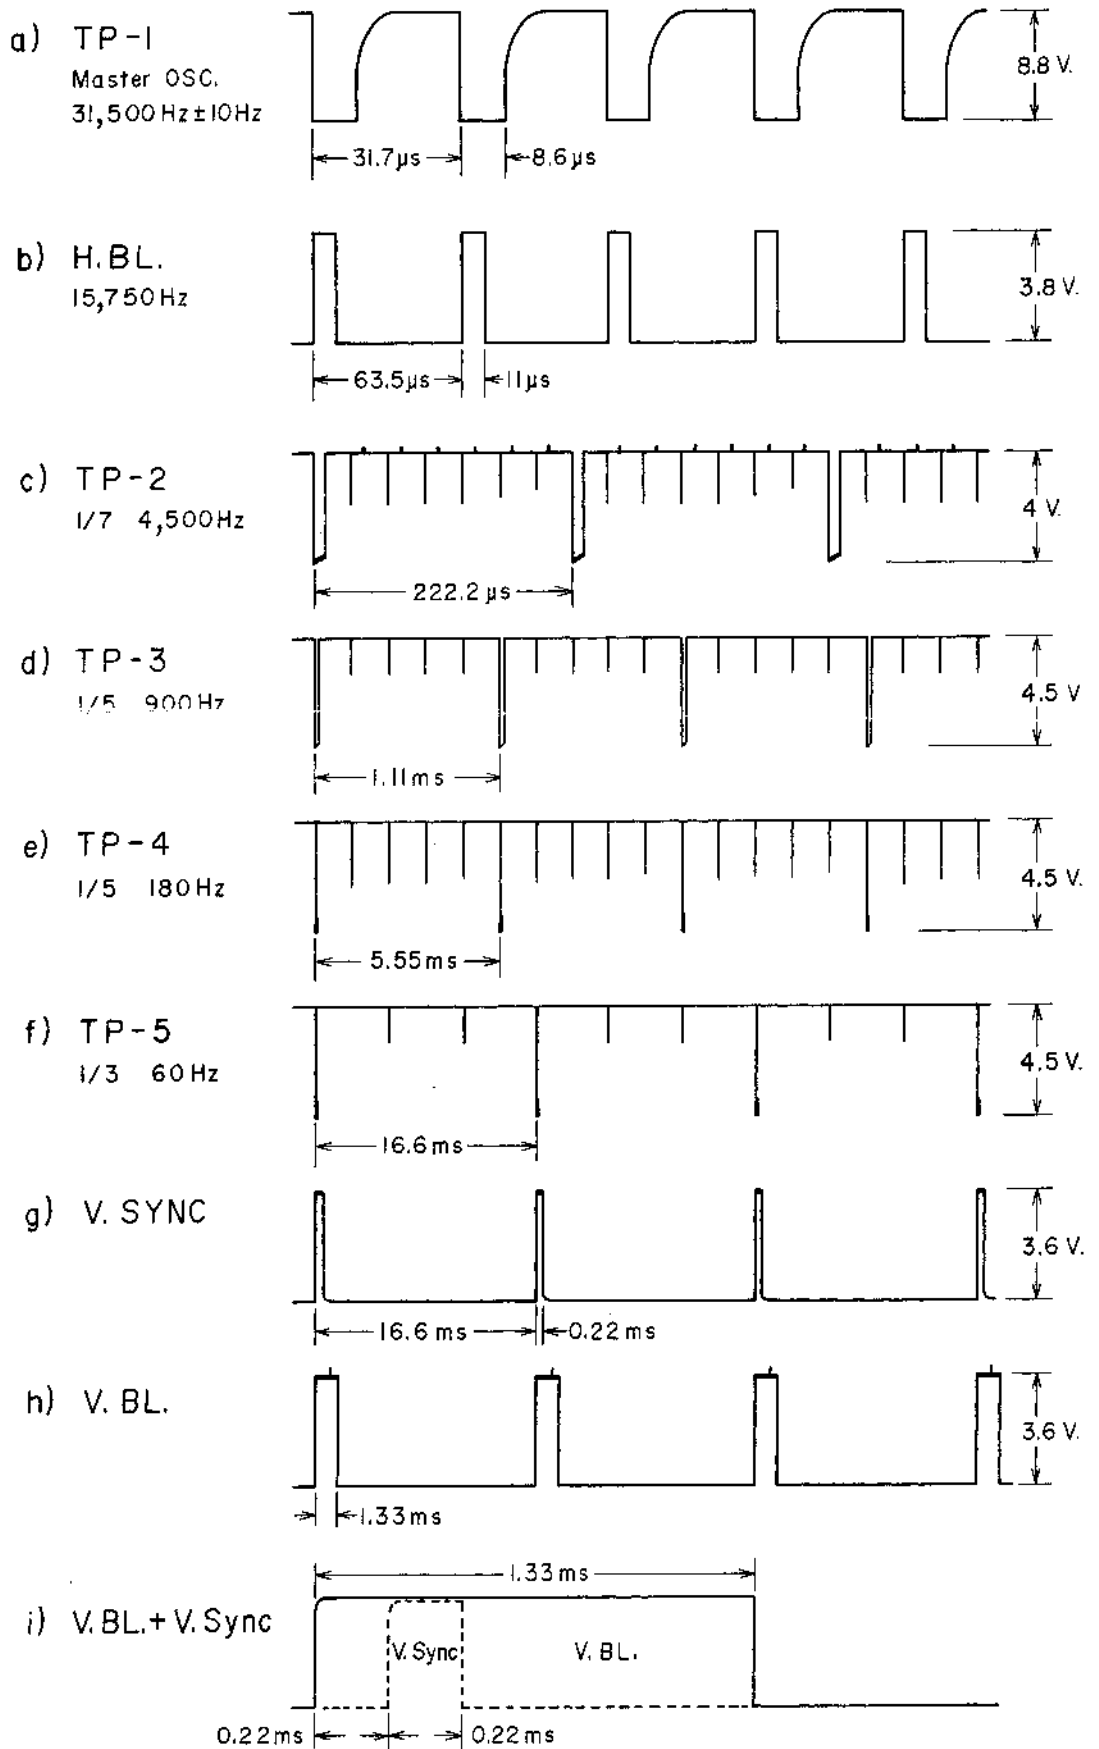

Fig. 1-39 S.S.G. Waveforms (PX-509)
Confirm that the frequency of the wave form at PX-509 Horizontal Blanking Terminal is 15,750 Hz as shown in fig. 1-39 (b).
(3) Frequency Divider Adjustment
- a) Adjust Potentiometer VR-1 so that the waveform at TP-2 (as shown in fig. 1-39 (c)) is triggered at the 7th pulse. At this point, confirm that the negative pulse frequency of TP-2 is 1/7 of 31,500 Hz (4,500 Hz).
- b) Adjust VR-2 so that the waveform at TP-3 (as shown in fig. 1-39 (d)) is triggered at the 5th pulse. At this point, confirm that the frequency is 1/5 of 4,500 Hz (900 Hz).
- c) Adjust VR-3 so that the waveform at TP-4 (as shown in fig. 1-39 (e)) is triggered at the 5th pulse. At this point, confirm that the frequency is 1/5 of 900 Hz (180 Hz).
- d) Adjust VR-4 so that the waveform at TP-5 (as shown in fig. 1-39 (f)) is 1/3 of 180 Hz (60 Hz).
(4) Confirmation of Vertical Sync. Signal
Connect an oscilloscope to PX-509 vertical sync. terminal and confirm that the pulse width of the vertical sync. signal is 0.22 milli-seconds and that the cycle time is 16.6 milli-seconds per each Hz. (ref. fig. 1-39 (g)).
Connect an oscilloscope to PX-509 vertical blanking terminal and confirm that the vertical blanking signal pulse width is 1.33 milli-seconds and that the cycle time is 16.6 milli-seconds per each Hz. (ref. fig. 1-39 (h)).